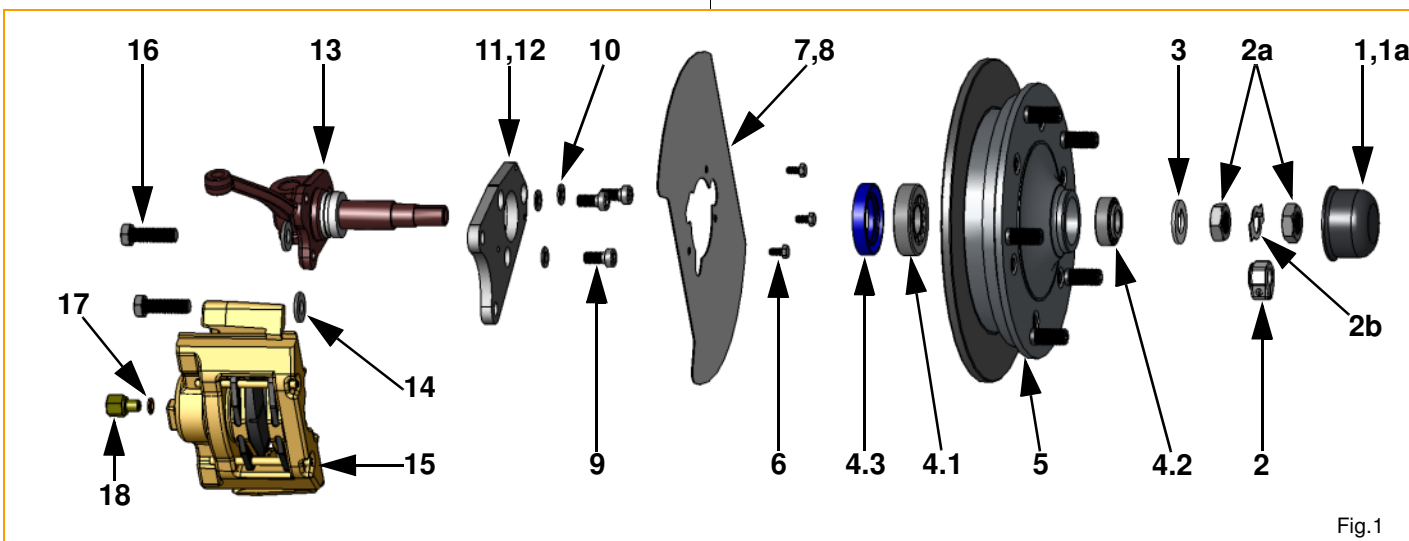

Fig.1
- Only the adjusting nuts (Pos:2 in Fig.1) and bearing washer (Pos:3 in Fig.1) need to be used from the drum brake setup, along with your original drum brake spindles.